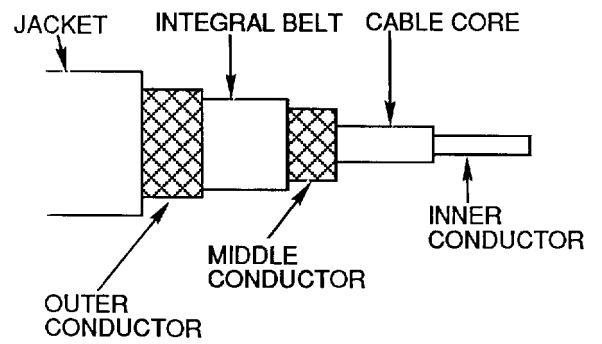

Figure 6. Triaxial Cable
e. **TRIAxIAL.** A triaxial cable is very similar to a coaxial cable and is used when further shielding is required. This cable is cylindrical in shape having a center conductor located concentrically within a dielectric core, but having two shields separated by a dielectric material (Figure 6).